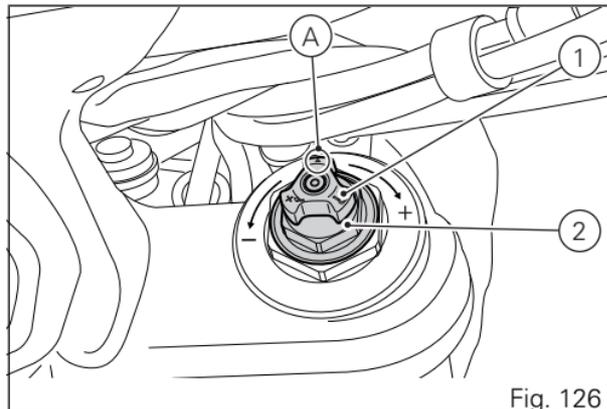

Fig. 126
- 1) to adjust rebound damping (Fig. 126);
- 2) to adjust spring preload (Fig. 126);
To change preload of the spring inside each fork leg, turn the hex. adjuster (2, Fig. 126) with a 22 mm hexagon wrench, starting from the fully open (clockwise) position.
From reference (A, Fig. 126), every full turn clockwise corresponds to 1 mm of preload of the spring, up to a maximum of 15 mm, corresponding to 15 full turns.